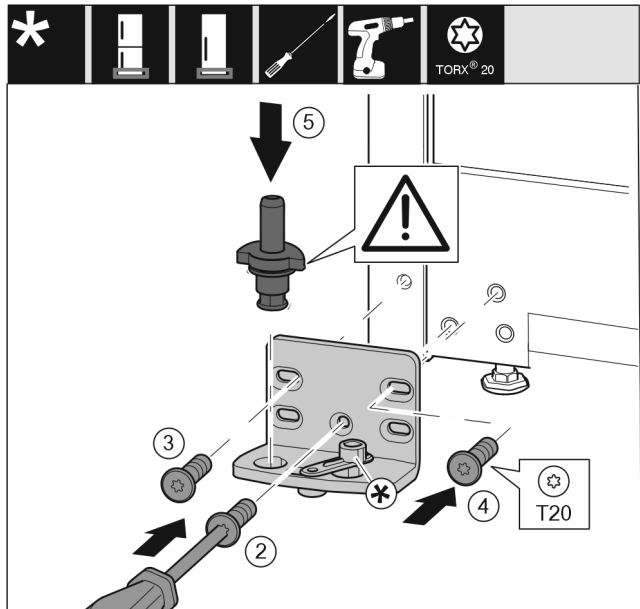

Fig. 13
- ▶ Place the bearing bracket on the other side and screw it on with a T20 screwdriver. Start with screw 2 at the bottom in the middle. Fig. 13 (2)
- ▶ Screw in screws 3 and 4 tightly. Fig. 13 (3,4)
- ▶ Insert the bearing pin completely. Make sure that the latching lug is pointing to the rear. Fig. 13 (5)